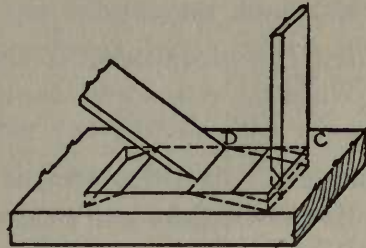

Fig. 39.
2. **Set the chisel in a vertical position as shown at C (Fig. 39). Note that the flat side of the chisel is against the end of the mortise. Tap gently with the mallet, thus forcing the chisel into the wood as shown by the dotted lines.**